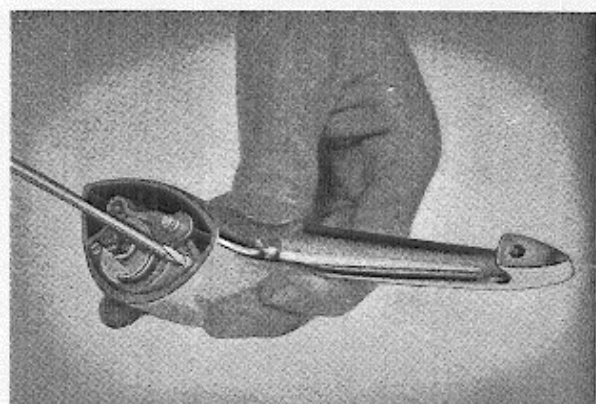

Fig. 15. Dismantling the lock handle.
1. Unscrew the two screws which hold the press button and lock plunger to the door handle, see Fig. 15.